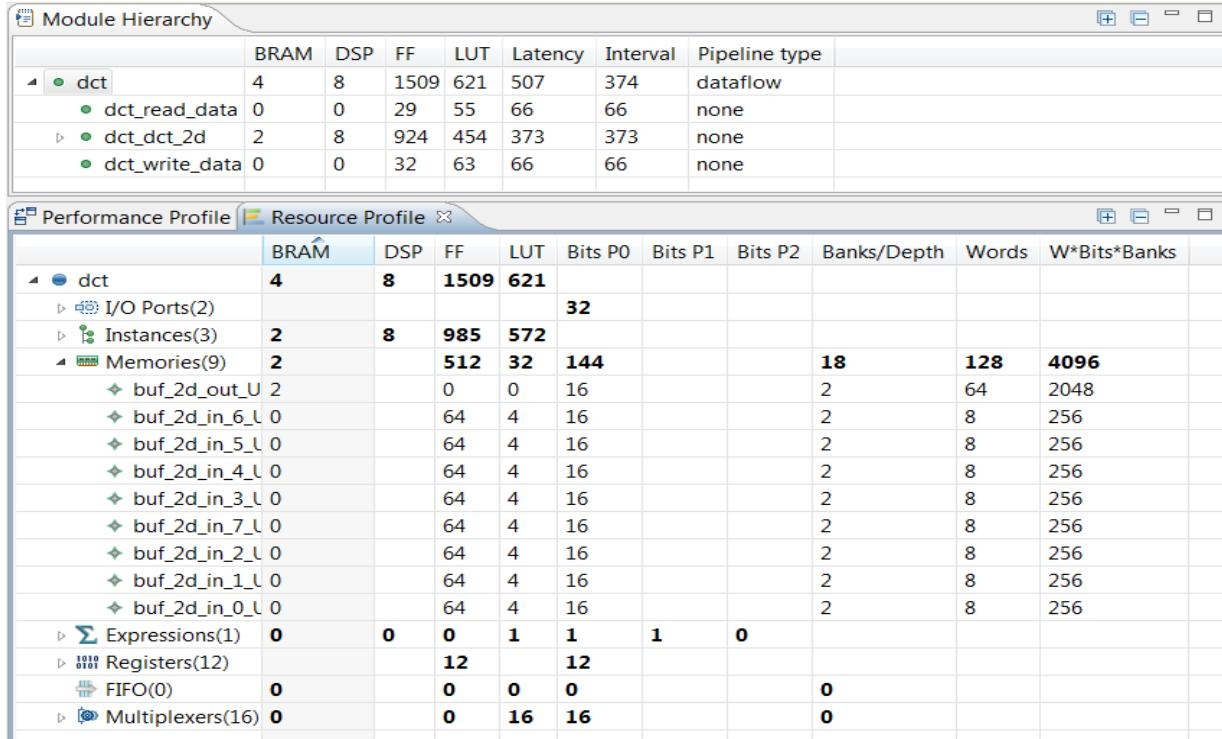

Figure 6-32: DCT Resource Profile
Because the `dct_2d` block is selected in the Module Hierarchy and the Performance Profile shows the details for this block. Figure 6-32 shows the interval is the same as the latency, so none of these blocks operate in parallel.
- Expand the memories to see the view in Figure 6-32.